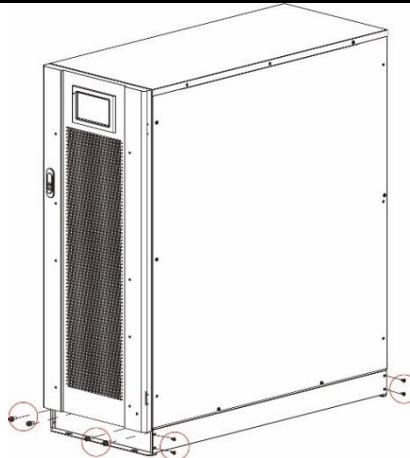

Fig. 3-9 Fix the tightening components on the case
- The wiring position and path of the power cable at the bottom of the cabinet are shown in Fig. 3-9 and Fig. 3-10.